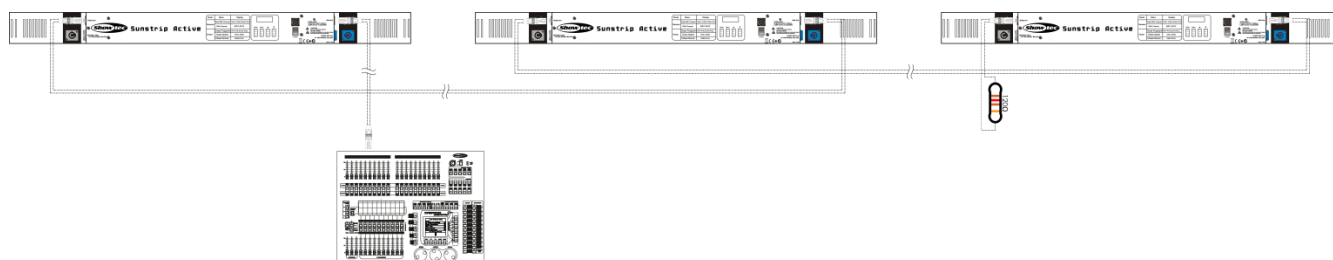

Fig. 03
- 04) Link the units as shown in Fig. 03. Connect the first unit's DMX "out" socket with the second unit's "in" socket, using a DMX-signal cable. Repeat this process to link the second, third, and fourth units.